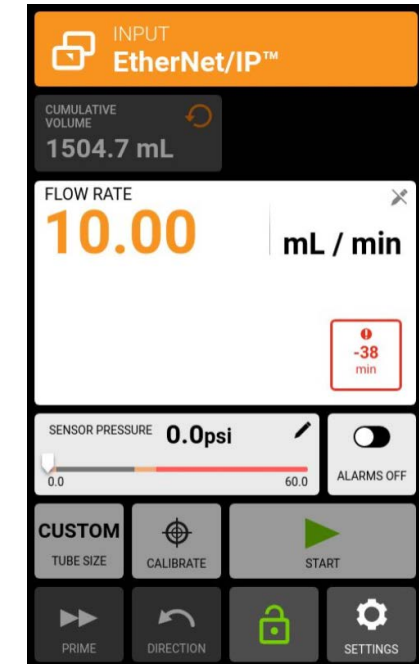

Figure 12
The pump-drive is in a counterclockwise direction of motion (value of “1”) or otherwise “0” (CW). This bit will change value based on the “Set Flow Direction CCW” bit in the output assembly by which the controller commands the pump-drive (see Figure 12 at right).